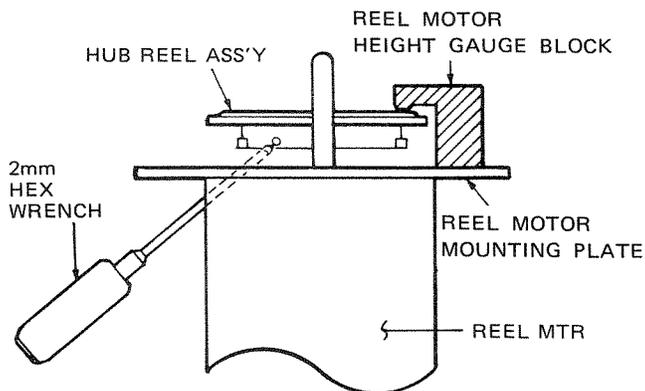

Figure 6-8-2.
STEP 2 Place the Reel Motor Height Gauge Block on the Reel Motor Mounting Plate (as shown in Figure 6-8-2.)
STEP 3 If the specification is not met, loosen the set screw with a 2mm hex wrench and adjust height accordingly (Refer to Figure 6-8-2.)